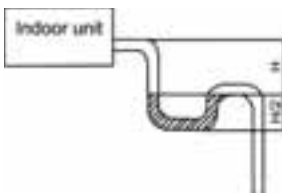

Fig. 4.21
- (4). When the drain hose cannot keep a sufficient gradient, it is necessary to fit a riser pipe (field supplied) to it.
- (5). If the air flow of indoor unit is high, this might cause negative pressure and result in return suction of outdoor air. Therefore, U-type water trap shall be designed on the drainage side of each indoor unit (Fig. 4.21).
- (6). Install one water trap for each unit.
- (7). Install the water trap so that it will be easy to access for future cleaning.